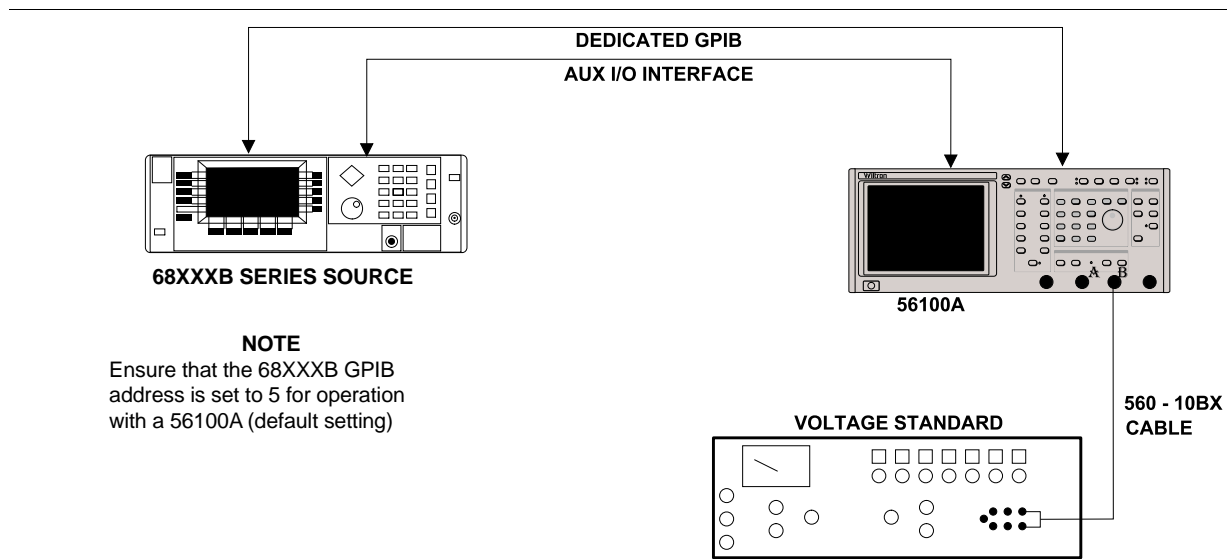

Figure 3-1. Test Equipment Setup, DC Voltage Method
Step 1. Set up the test equipment as shown in Figure 3-1.